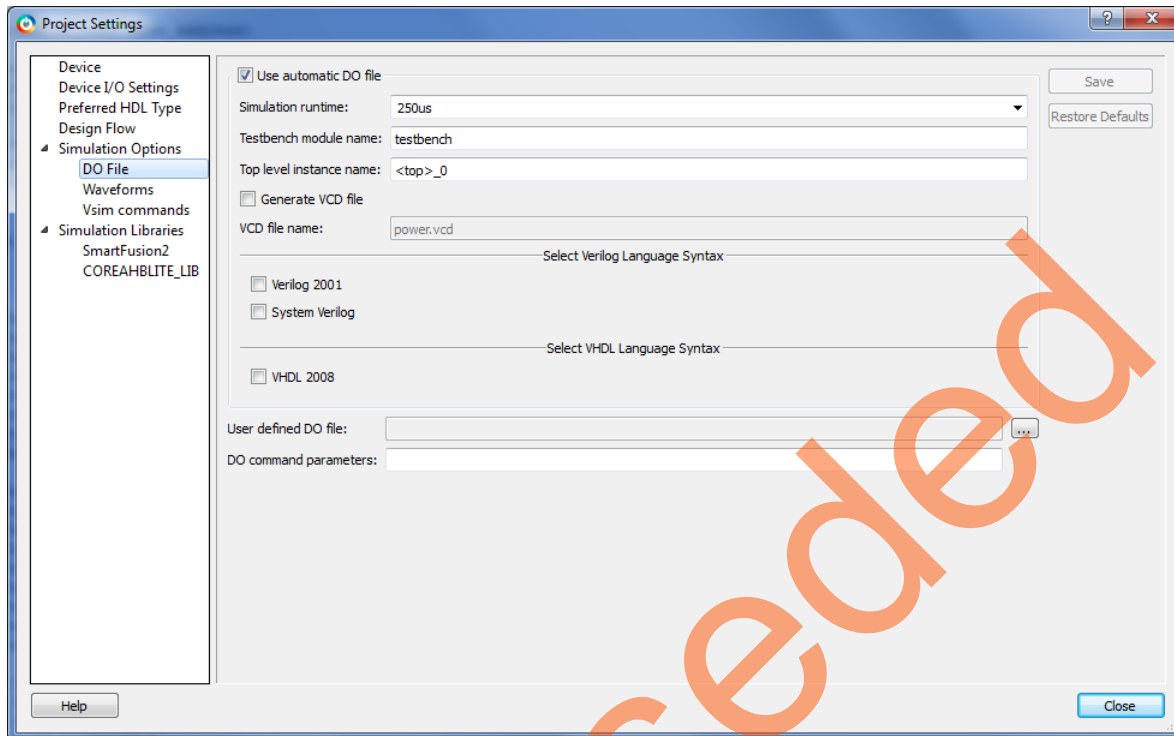

Figure 51 • Project Setting – Do File Simulation Runtime Setting
5. Select **Do File** under **Simulation Options** in the Project Settings window. Change the **Simulation runtime** to 250us, as shown in Figure 51 on page 48.